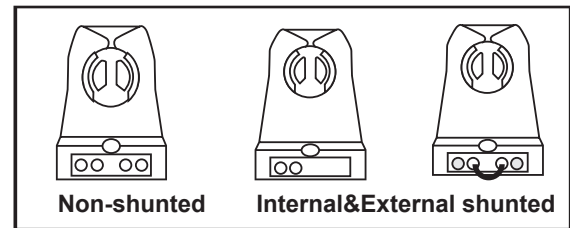

Fig:1 - Lampholder Type
- 7) Identify what type of lampholders are in fixture (Fig.1), If existing lampholder is internally shunted, then replace with new non-shunted lampholder. If lampholder is shunted with a jumper wire (Fig.2), remove wire to convert into non-shunted.